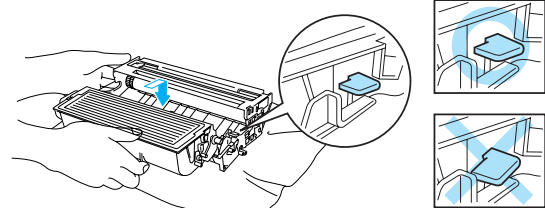

Fig. 5-5
- (4) Unpack the new drum unit.
(5) Put the toner cartridge in the new drum unit until you hear it lock into place with a click. When the toner cartridge is installed correctly, the blue lock lever is lifted automatically. (Fig.5-5) Make sure you fit the toner cartridge properly, or it may separate from the drum unit when you pick up the drum unit assembly.